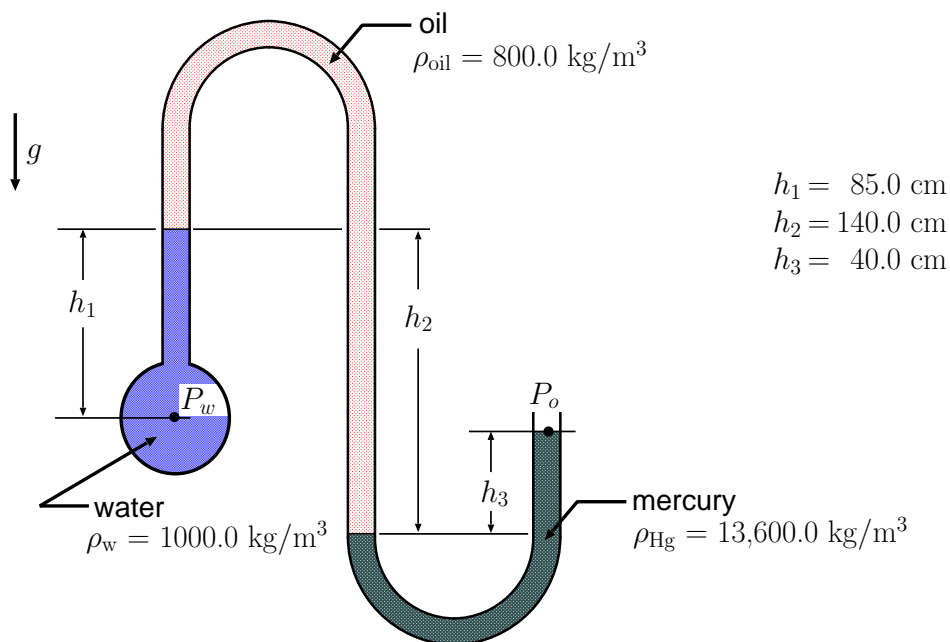

Figure 1: Schematic for Problem 1
1. A water pipe is connected to the manometer system shown in Figure 1. The local atmospheric pressure, P_o , is 101.3 kPa and the gravitational acceleration is 9.81 m/s^2 . The densities of the water, oil, and mercury are 1000.0 , 800.0 , and $13,600.0 \text{ kg/m}^3$, respectively. The heights of the liquid levels in the manometer system are given in the figure. Determine the absolute pressure at the centre of the water pipe, P_w , in kPa.